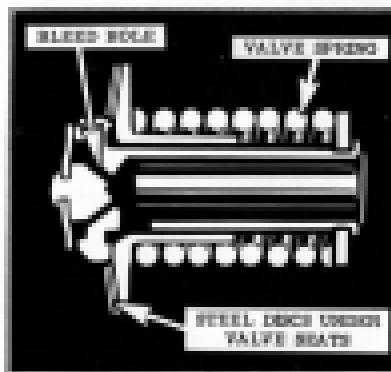

Fig. 106. Front Shock Absorber Valve Assembly
2. Install on mounting block, using tool J4995. (See Fig. 106.)